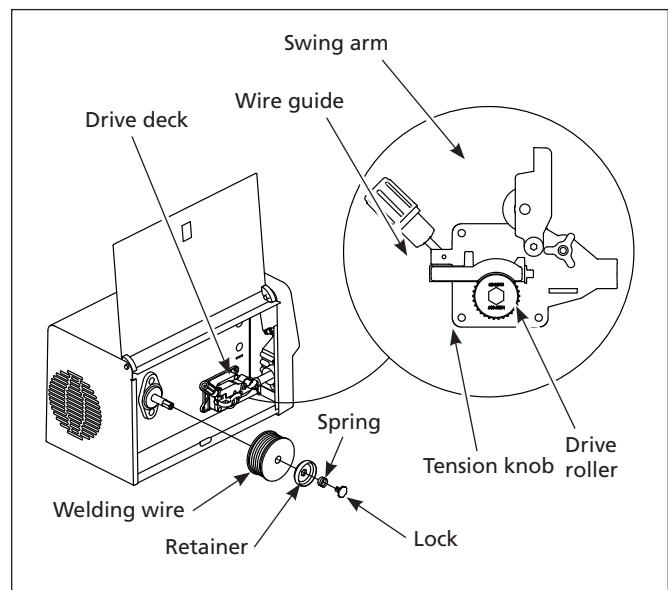

Figure 2 - Weld wire installation
- Diameter of welding wire matches groove in drive roller on wire feed mechanism (See Figure 2).